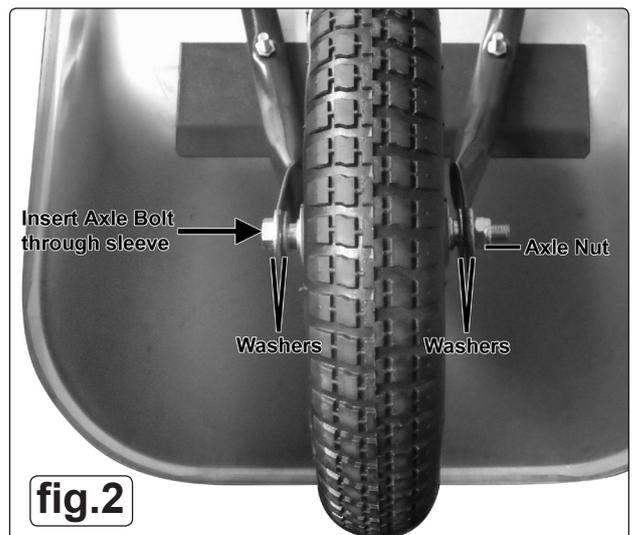

fig.2
- 3.2 Next attach the frames to the underside of the pan. Ensure the end of the frame to which the wheel will attach, kicks outward as in fig.2.
- 3.8 Slide one large washer onto the axle bolt, then insert through the frame another washer then through the wheel. Slide a washer onto the axle bolt then through the frame then the last washer and secure with the axle nut (fig.2).
NOTE: Ensure there is a washer either side of the frame (fig.2).